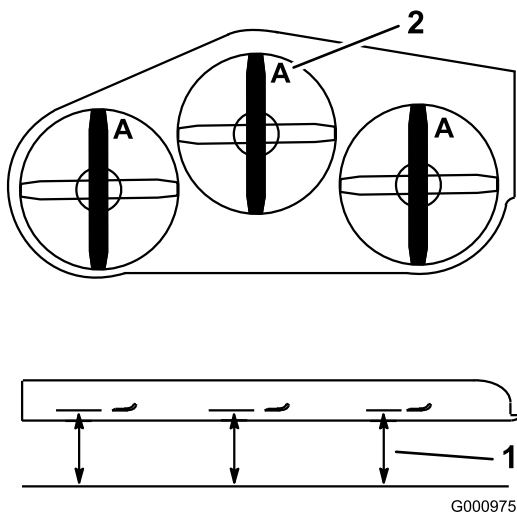

Figure 62
3. Rotate the blades until the ends face forward and backward. Measure from a level surface to the cutting edge, position **A**, of the blades (Figure 62).